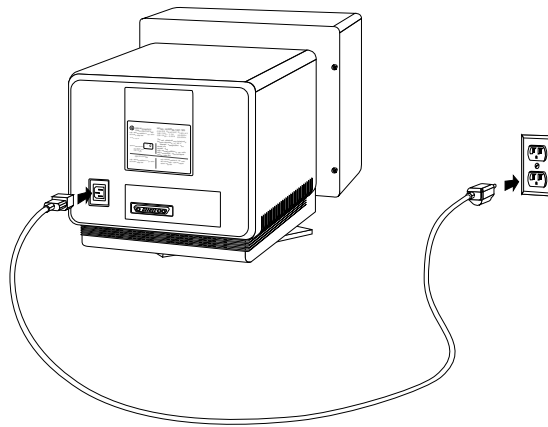

Figure 5-18 Connecting the Secondary Monitor's Power Cable
1. Connect the female end of the power cable to the power connector on the back of the monitor, as shown in Figure 5-18.